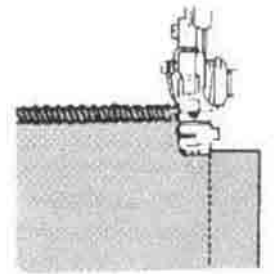

Fig. 99
5. Rotate the workpiece and lower the sewing foot ④ so that the upper blade ⑬ lies in a line with the cutting edge (Fig. 99).